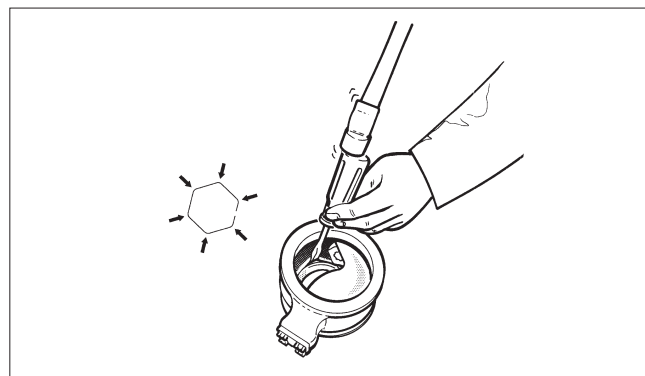
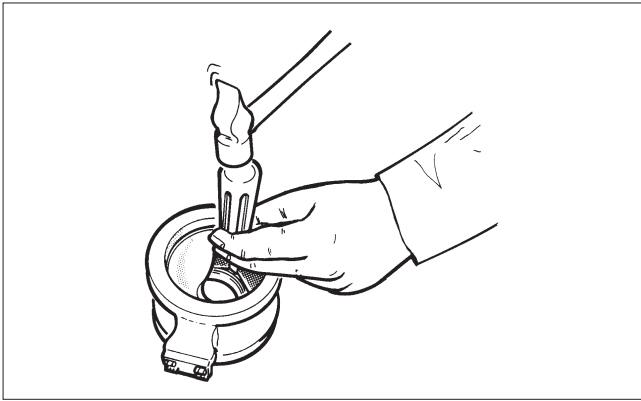

Fig. 30 Knocking the spring into the groove
Fig. 31 Knocking the spring after turning the seat around
- Place a screwdriver on each visible spring angle one after the other and knock the spring into the groove, see Fig. 30.
- Turn the segment 180° clockwise and knock the rest of the spring angles into the groove, Fig. 31. A special tool available from the manufacturer may also be used for the work phases in Figs. 30 and 31.